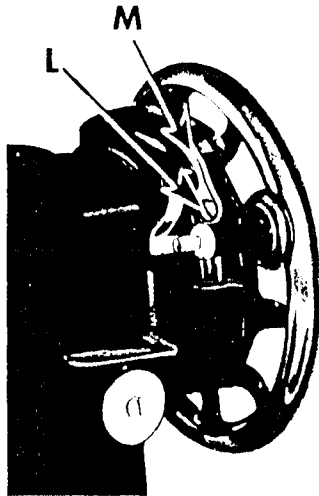

Fig. 16. Adjusting Bobbin Winder
- Loosen adjusting screw L, Fig. 16.